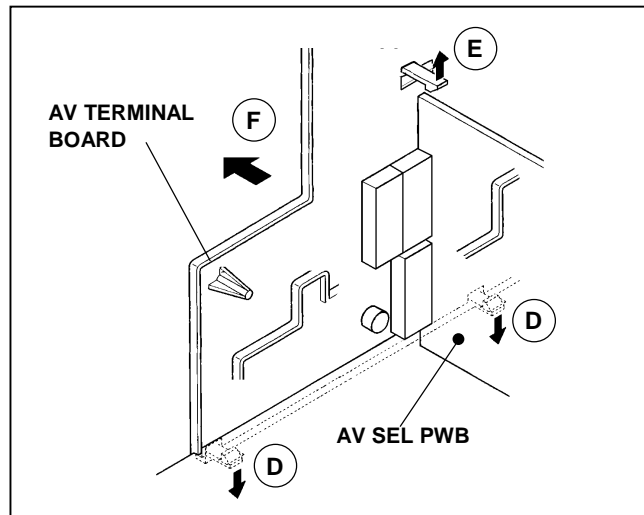

Fig. 2
2. Remove the claws marked "D" under the CHASSIS as shown in Fig. 2.
3. While raising the claw marked "E", remove the top of the AV TERMINAL BOARD slightly in the direction of arrow "F" as shown in Fig. 2.